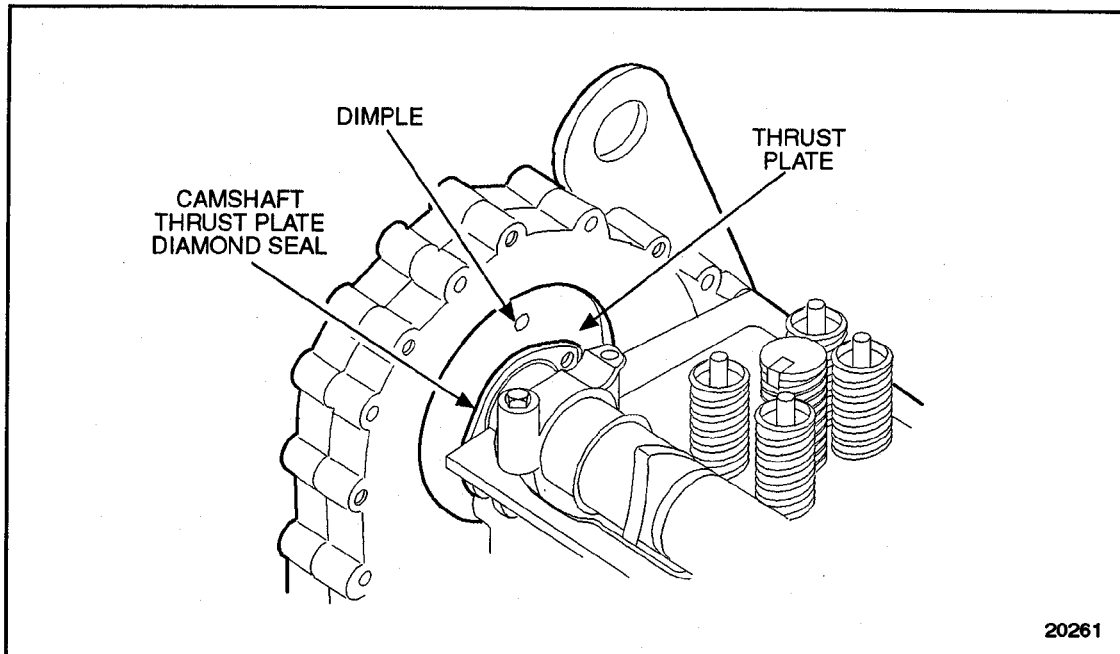

Figure 1-340 Camshaft Thrust Plate Clearance
12. Continue turning the puller screw to pull the camshaft drive gear hub and thrust plate forward approximately 6-7 mm (1/4 in.) until the thrust plate seal is clear of the camshaft front bearing cap and cylinder head. See Figure 1-340.